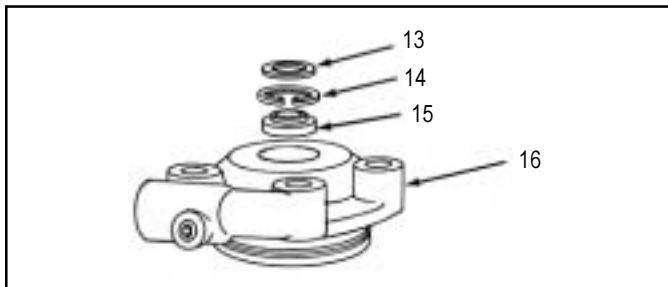

FIGURE 31
2. Install the seal(15), snap ring(14), and dust seal(13) into valve body(16). (See Figure 31)